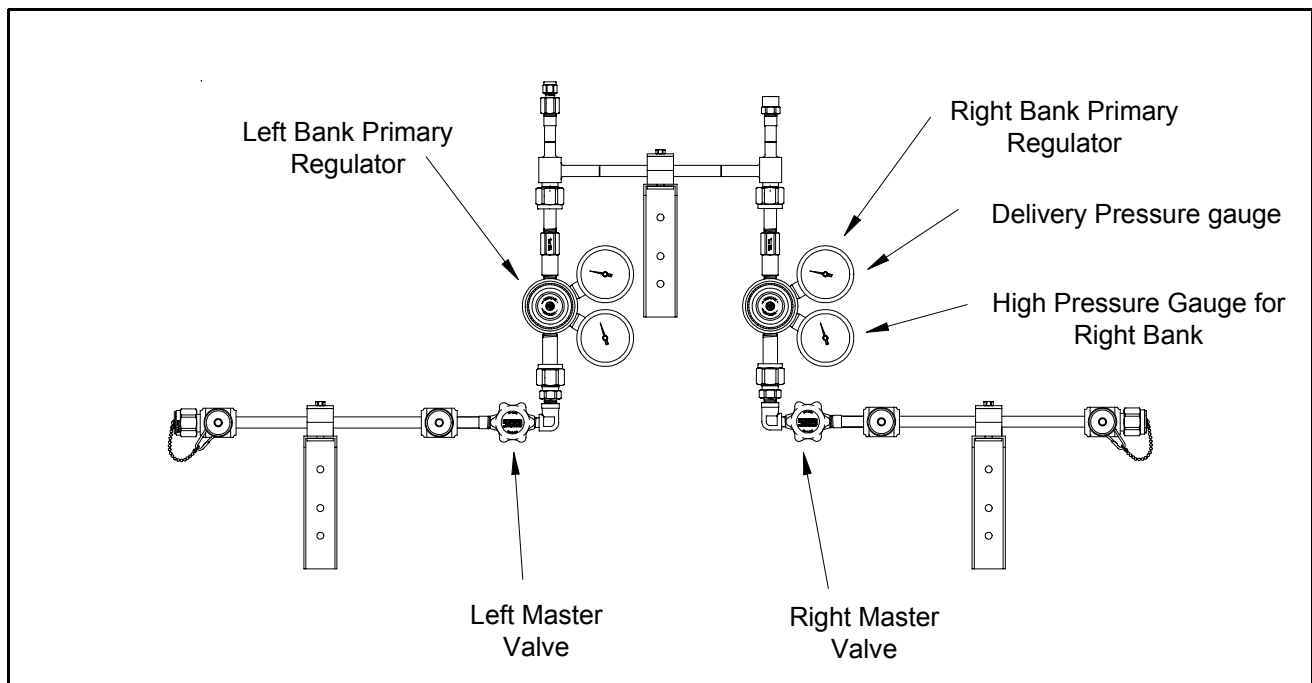

FIGURE 11
1. S-L-O-W-L-Y open one cylinder on the right bank (turn counter-clockwise to open). The high pressure gauge will show the full pressure of the right bank of cylinders. (Figure 11)